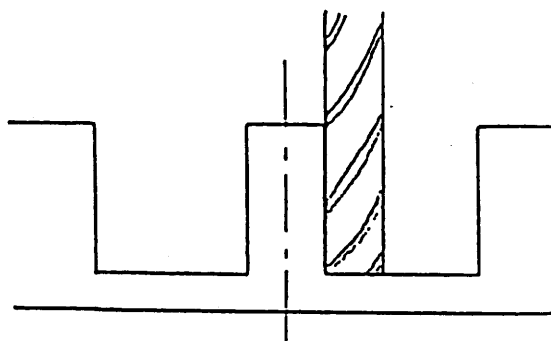

Fig. 7.2 : J-\*\*
- (b) When the radius of the semi-finished hole (J) is  $\ominus$ , the tool doesn't return to the X-axis center in the machining cycle. (Fig. 7.2)